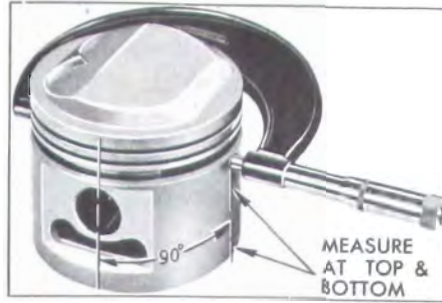

Figure 2-44—Measuring Piston with Micrometer
The pistons are cam ground, which means that the diameter at a right angle to piston pin is greater than the diameter parallel to piston pin. When a piston is checked for size it must be measured with a micrometer applied to skirt at points exactly 90 degrees to piston pin. See Figure 2-44. Measurements should be made at top and bottom ends of skirt; the diameter at top end will normally be very slightly less than at bottom end after a
Before the honing or reboring operation is started, measure all new pistons with micrometer contacting at points exactly 90 degrees to piston pin (Figure 2-44) then select the smallest piston for the first fitting. The slight variation usually found between pistons in a set may provide for correction in case the first piston is fitted too free.
3. Measure the piston to be installed. See Figure 2-44. The piston must be measured at right angles to the piston pin below the oil ring groove.